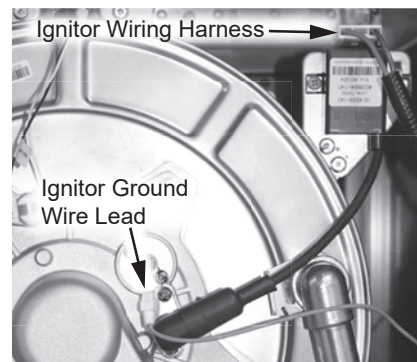

Figure 57 - Ignitor wiring harness location
- 4 Locate the ignitor wiring harness and ignitor ground connection. See Figure 57. Disconnect them and move the wires aside.
- 5 The wiring is held in place along the right side of the cabinet by three (3) plastic organizers. Remove the wiring from these keepers.
- 6 Locate and remove the two (2) screws securing the grounding wires to the grounding plate. See Figure 57. Do not remove the third ground connection that is not part of the wiring assembly. Place screws aside in a safe place for reinstallation.